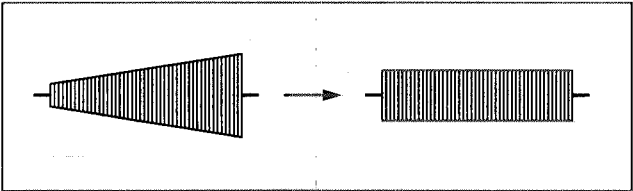

Fig. 3-2-5 PB FM
- (1) Connect an oscilloscope to TP106 and external trigger from TP111 (positive slope).
- (2) Playback the LP stairstep portion of the alignment tape.
- (3) Set the automatic tracking control to the OFF by simultaneously pressing the CH “+” and “-” buttons.
- (4) Adjust for maximum level of playback FM waveform by depressing the CH “+” or “-” buttons.
- (5) Set the VCR to the LP 2x mode.
- (6) Adjust for half level of playback FM waveform from maximum level by depressing the CH “+” or “-” buttons.
- (7) Adjust by pressing the “M+D” or “M+E” buttons of the presetting unit for FM waveform is flat as shown in Fig. 3-2-5.
- (8) Record the stairstep signal by the LP mode and play it back.
- (9) Repeat steps (3) and (7) in the LP 1/6 FWD slow mode.